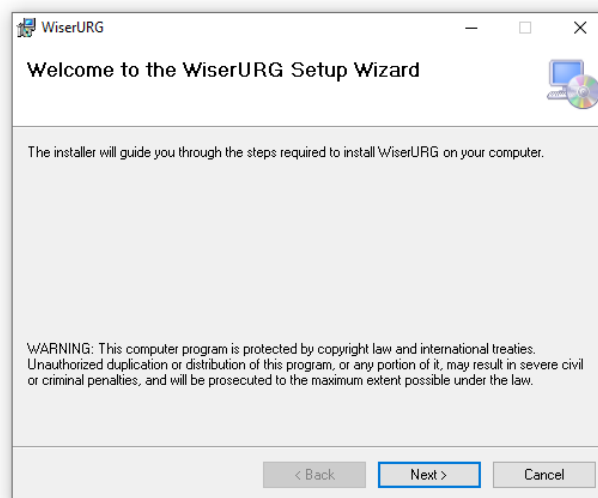
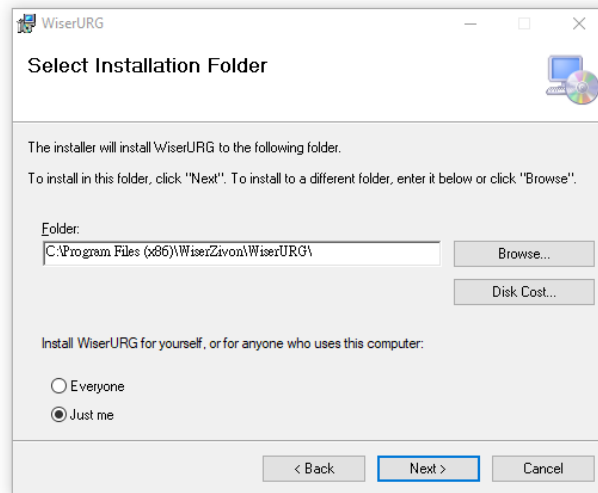

Figure 3.1-1 Information window
Figure 3.1-2 Destination installation window
1. Double-click the “setup.exe” installer you obtained, and the windows shown in Figure 3.1-1 with information about WiserURG you will see. Review the content and if there are no problem, click “Next”, a new window will appear.
2. After clicking “Next” in Figure 3.1-1, If Figure 3.1-2 didn’t appeared, the application would be installed directly, otherwise, the Figure 3.1-2 would appear to specify where “Wiser Urg” should be installed. If you don’t need to specify anything in particular, click “Next”. Or to select a different folder, click “Browse” and select the desired folder.
3. Click “Next” in Figure 3.1-2 a window will appear describing the preparation for installing the application on your computer. Please check and if there are no problems, click “ Next “ again.